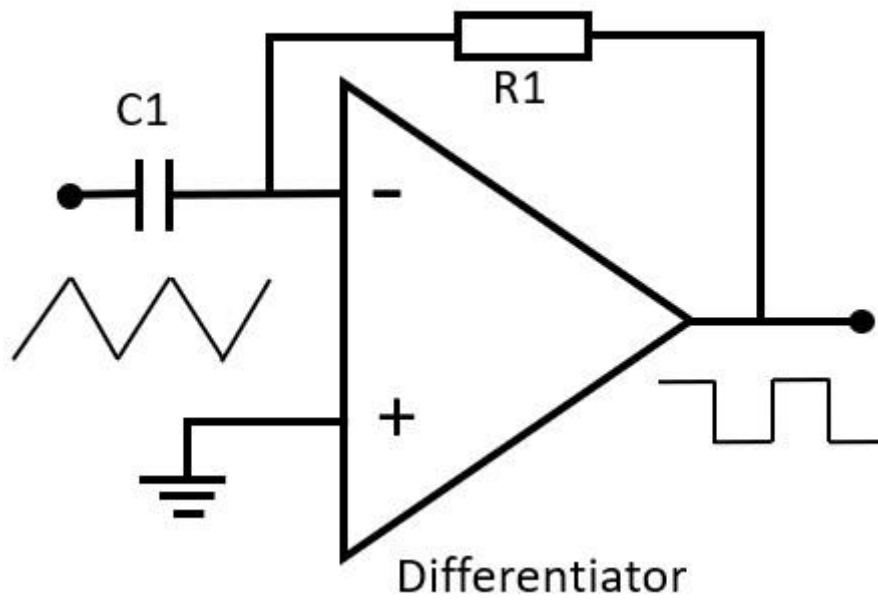

Figure 7: Integrator.
6. The Integrator Op Amp performs integration with respect to time. The output is proportional to the input voltage integrated over time governed by R_1 and C_1 (Figure 7).